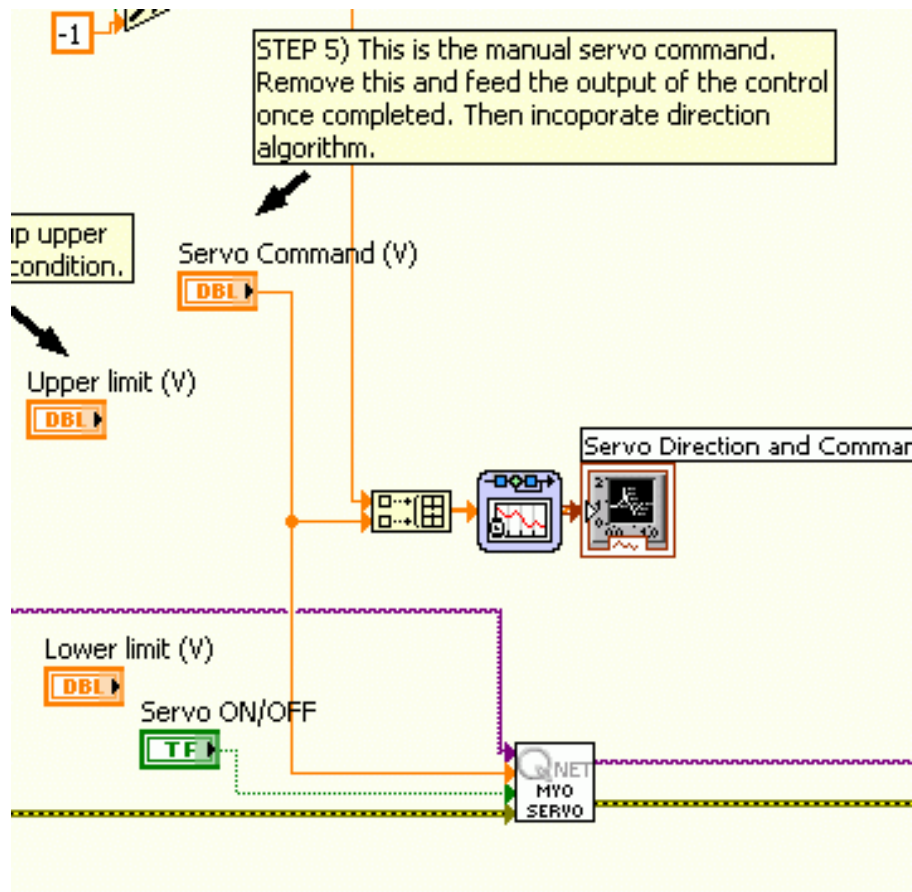

Figure 4.9: Disconnect manual servo command and use output of integrator
- Disconnect the *Servo Command (V)* control and wire the integrator output instead as shown in Figure 4.9. This should be connected to the *Servo Direction* and *Command* chart (second input of cluster) and the *Servo (V)* terminal on the *QNET_MYOELECTRIC_Servo_Write* sub-VI. Also, make sure the direction from the *Manual Direction* control is plotted on the *Servo Direction* and *Command* chart (first input of cluster). Attach an image of the block diagram.